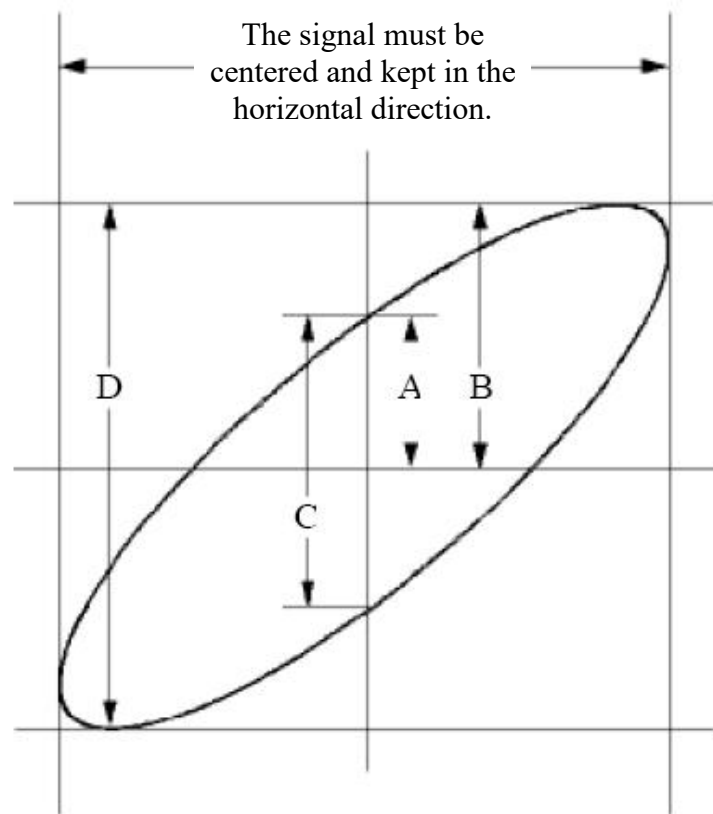

Figure 9-6 Lissajous Graph
- (1) Set the probe menu attenuation coefficient for **10X** and that of the switch in the probe for **10X** (see "*How to Set the Probe Attenuation Coefficient*" on P13).
- (2) Connect the probe of channel 1 to the input of the network and that of Channel 2 to the output of the network.
- (3) Push the CH1 to CH4 button to turn on CH1 and CH2, turn off CH3 and CH4.
- (4) Push the **Autoset** button, with the oscilloscope turning on the signals of the two channels and displaying them in the screen.
- (5) Push **CH1** button to select CH1, turn the **Vertical Scale** knob, and then push **CH2** button to select CH2, turn the **Vertical Scale** knob, making the amplitudes of two signals equal in the rough.
- (6) Push the **Display** button and recall the Display menu.
- (7) Select **XY Mode** in the bottom menu. Select **Enable** as **ON** in the right menu. The oscilloscope will display the input and terminal characteristics of the network in the Lissajous graph form.
- (8) Turn the **Vertical Scale** and **Vertical Position** knobs, optimizing the waveform.
- (9) With the elliptical oscillogram method adopted, observe and calculate the phase difference (see *Figure 9-6*).